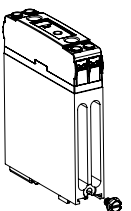

fig. 3 DR22 model with Protective Earth screw
- Protective Earth (PE) screw type recommended is 10-32 UNC standard, not provided with SSR. Through the use of a DIN rail ground (protective conductor) terminal block, the DIN rail itself can be used as the grounding bus bar. In this case, the zinc plated steel material used for the DIN rail clip of DR22 models, permits a secure path to ground and avoid the need of a further PE connection (see **fig. 3**).